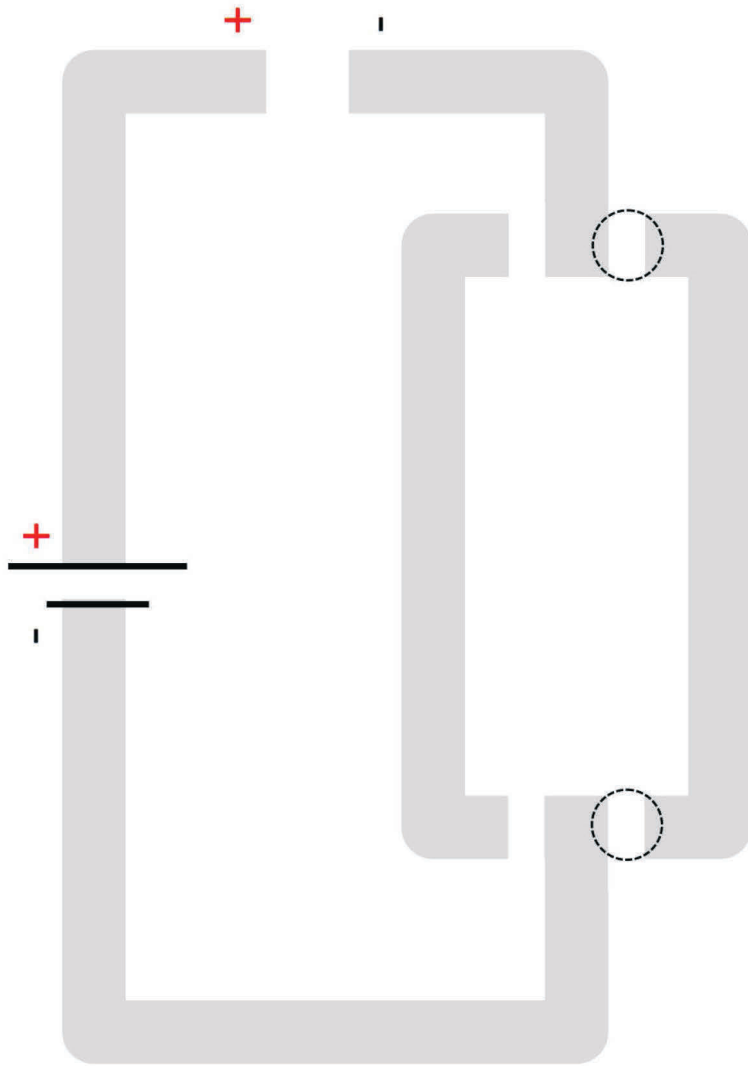

Figure 9: "Control circuit" template
- Draw a heavy line over the light gray line on the template copy (see figure 9) with an 8B pencil.